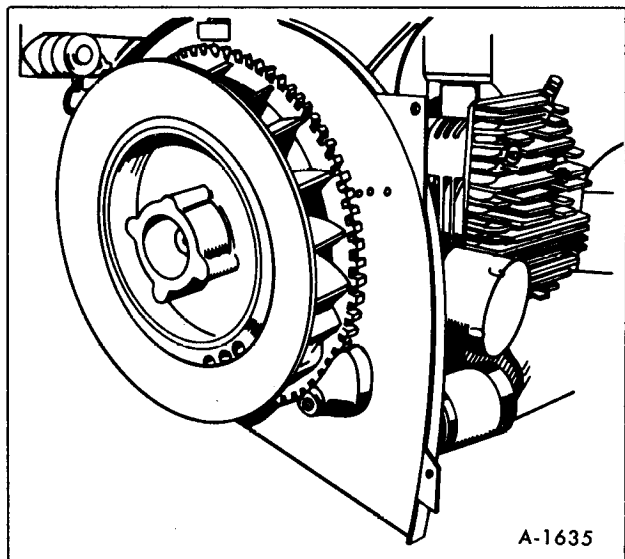

Figure 46-Blower Scroll Removed
1. Remove blower scroll from front of engine by removing four screws (figure 46).